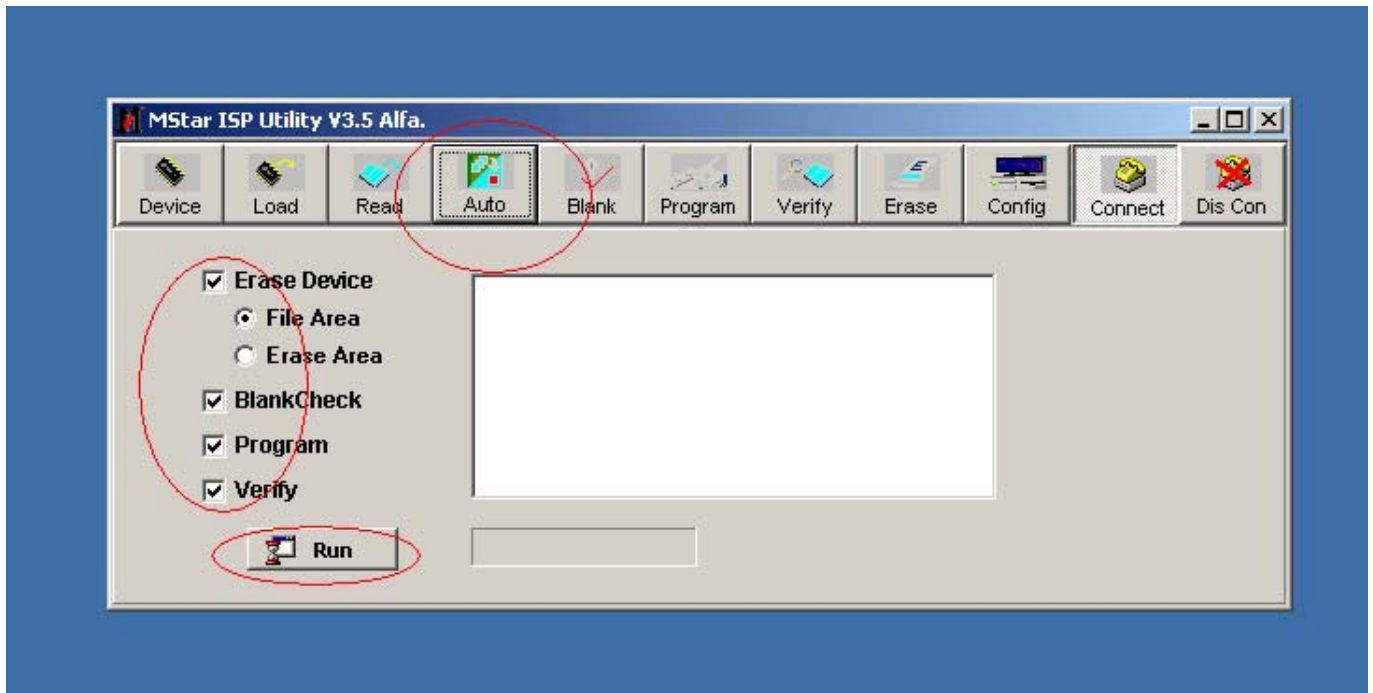

Fig. 2.1
2.1 Single-click the “Run” button,you can program the MCU. .see Fig2.1